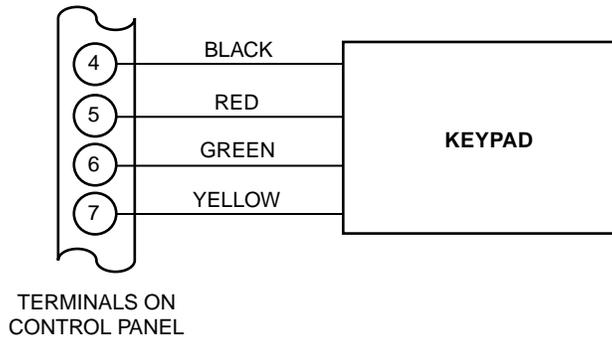

Figure 6. Keypad Connections to the Control Board
3. Connect remote keypads to terminals 4, 5, 6, and 7 on the control board, as shown in *Figure 6*.